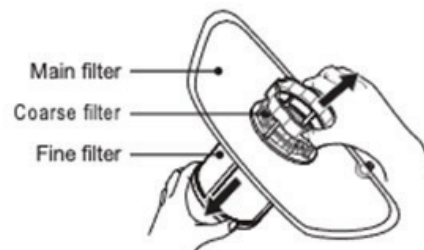

Figure 25: Filter assembly once removed from the dishwasher cabinet base.
Step 2: With the filter assembly removed from the dishwasher, the fine filter can be pulled off the bottom, (refer to figure 25 below). This fine filter is covered by a fine mesh. Rinse this under running water from your tap and wipe any residual food residue off the filter.